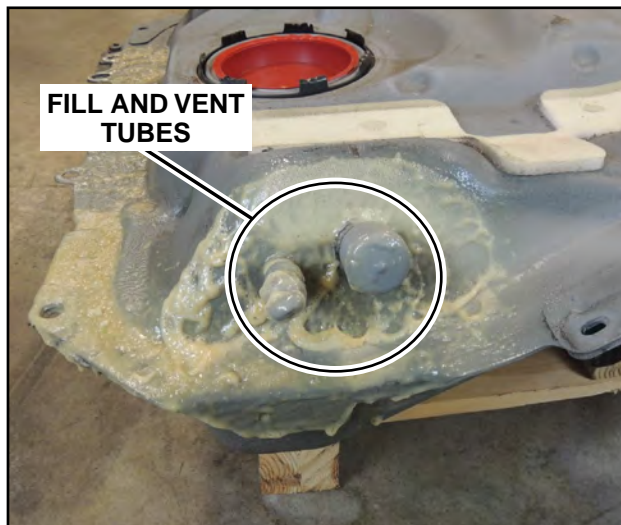

FIGURE 12a
**NOTE:** Before applying anti-corrosion treatment to the fuel tank surface, cover the filler neck and vent tube with a suitable cover to keep these areas free of the treatment. See Figure 12a.